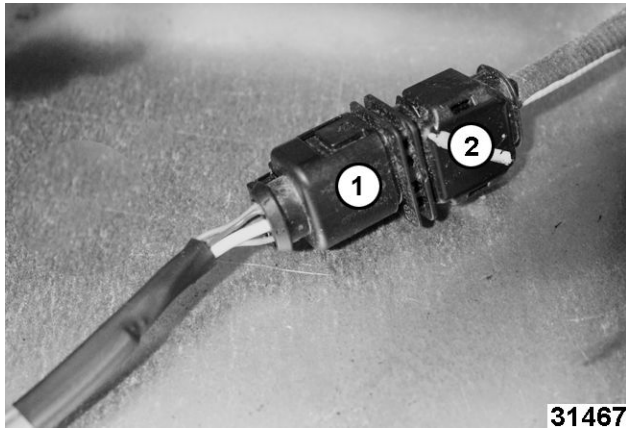

Fig. 22
3. Disconnect main board TC cable plug (1, Fig. 22) from oxygen sensor cable at plug (2, Fig. 22).